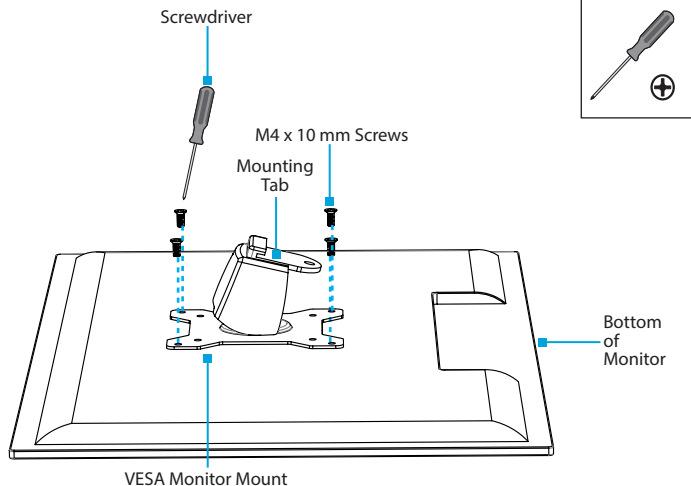

Figure 8
4. Insert the **M4 x 10 mm Screws** (x 4) through the **VESA Monitor Mount** and into the **Monitor** and tighten, using a **Phillips Head Screwdriver**. (Figure 8)